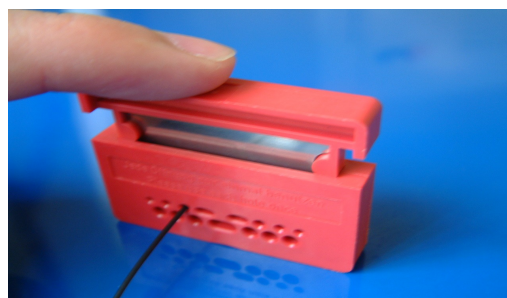

Figure 18b.
- Press down on the top of the razor blade until the fiber is cut through. (figure 18b)